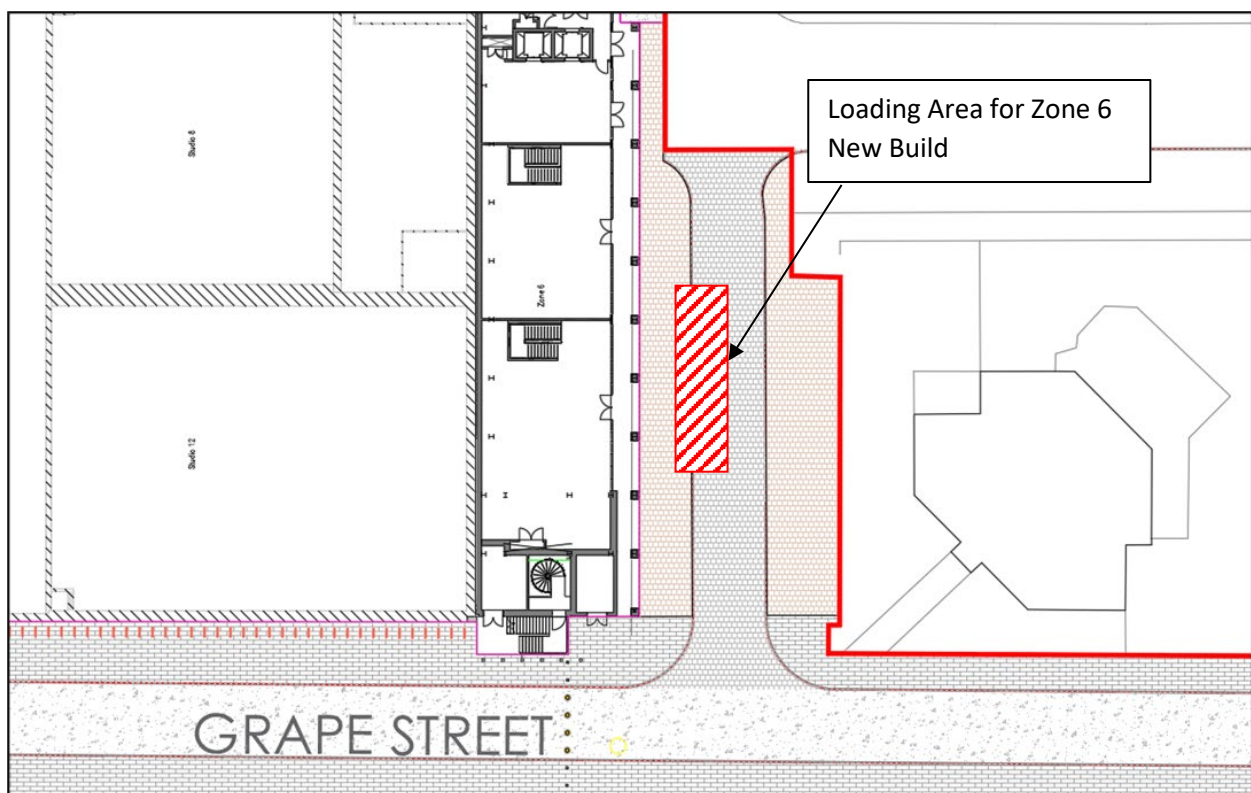

Figure 6.2 Loading Area outside Zone 6 New Build
- 6.9 The location is described in **Figure 6.2** below.